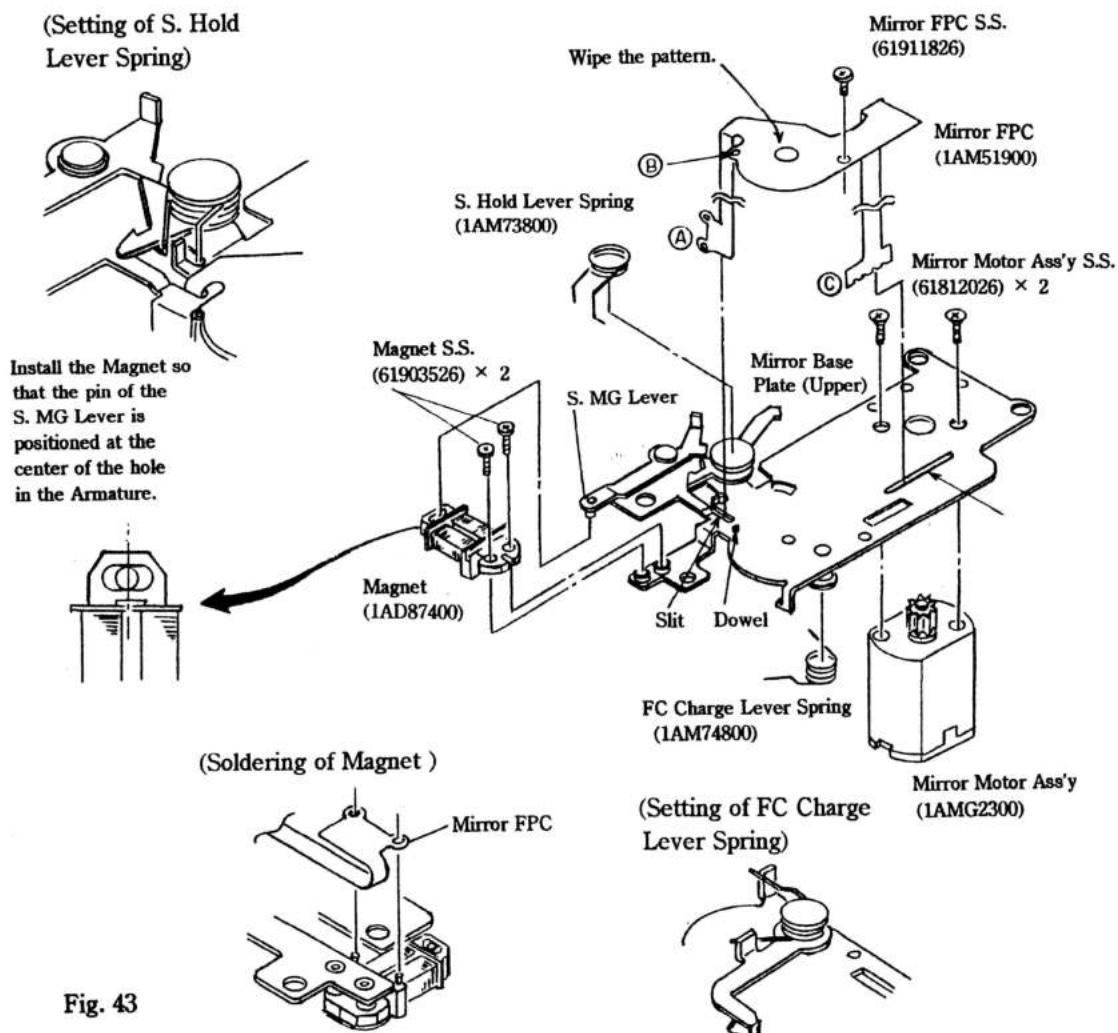

Fig. 43
- 5) Pass the (C) portion of the Mirror FPC through the slot in the Mirror Base Plate (Upper) and bend the Mirror FPC.
- 6) Bend the (A) portion of the Mirror FPC as shown in Fig. 43 and solder it to the terminals of the Magnet.
- 12) Wipe the contact pattern on the Mirror FPC with lens cleaning paper with ether alcohol. (See Fig. 43)
- 13) Make certain that the contacts of the Mirror Cam (2) Ass'y are free from fatigue or deformation.